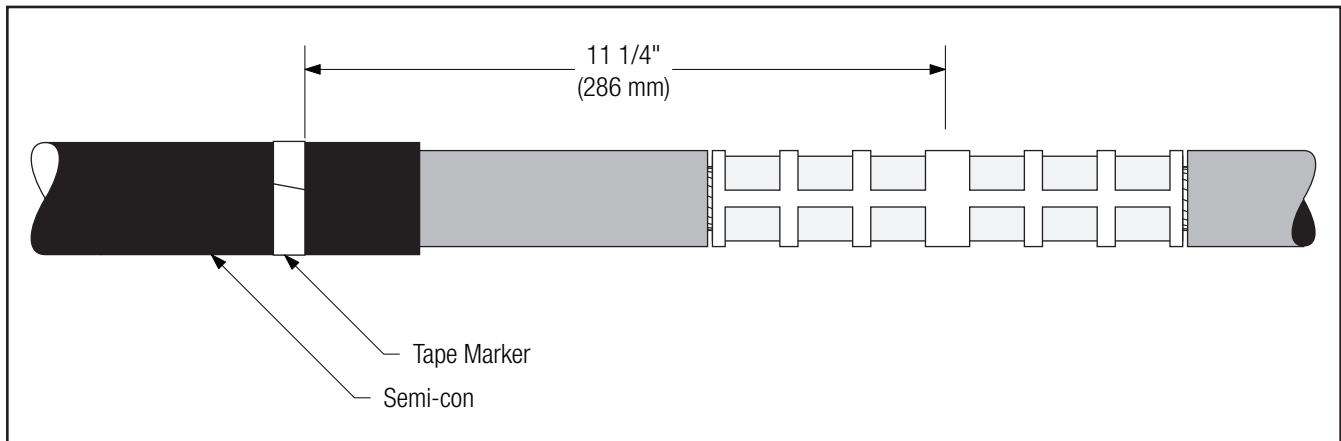

Figure 17
- 5.1 Apply a tape marker to semi-con insulation shield on cable which does not contain splice. Measure 11 1/4" (286 mm) from center of connector (*Figure 17*).